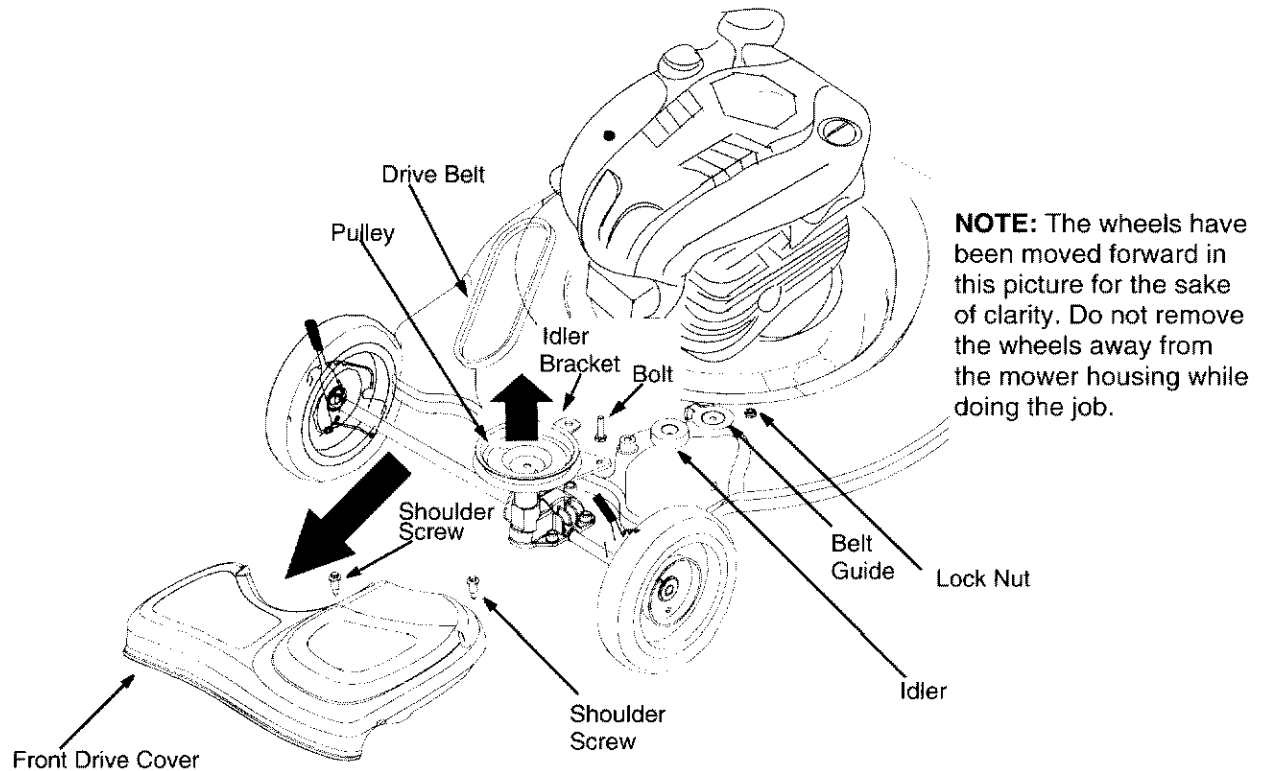

FIGURE 13
- Remove the two shoulder screws from on top of the deck which secures the belt guard to the mower deck. See Figure 13.
- Remove the idler from the idler bracket using 7/16" wrench and socket. See Figure 13.
- Remove the belt from the transmission pulley as shown in Figure 13.